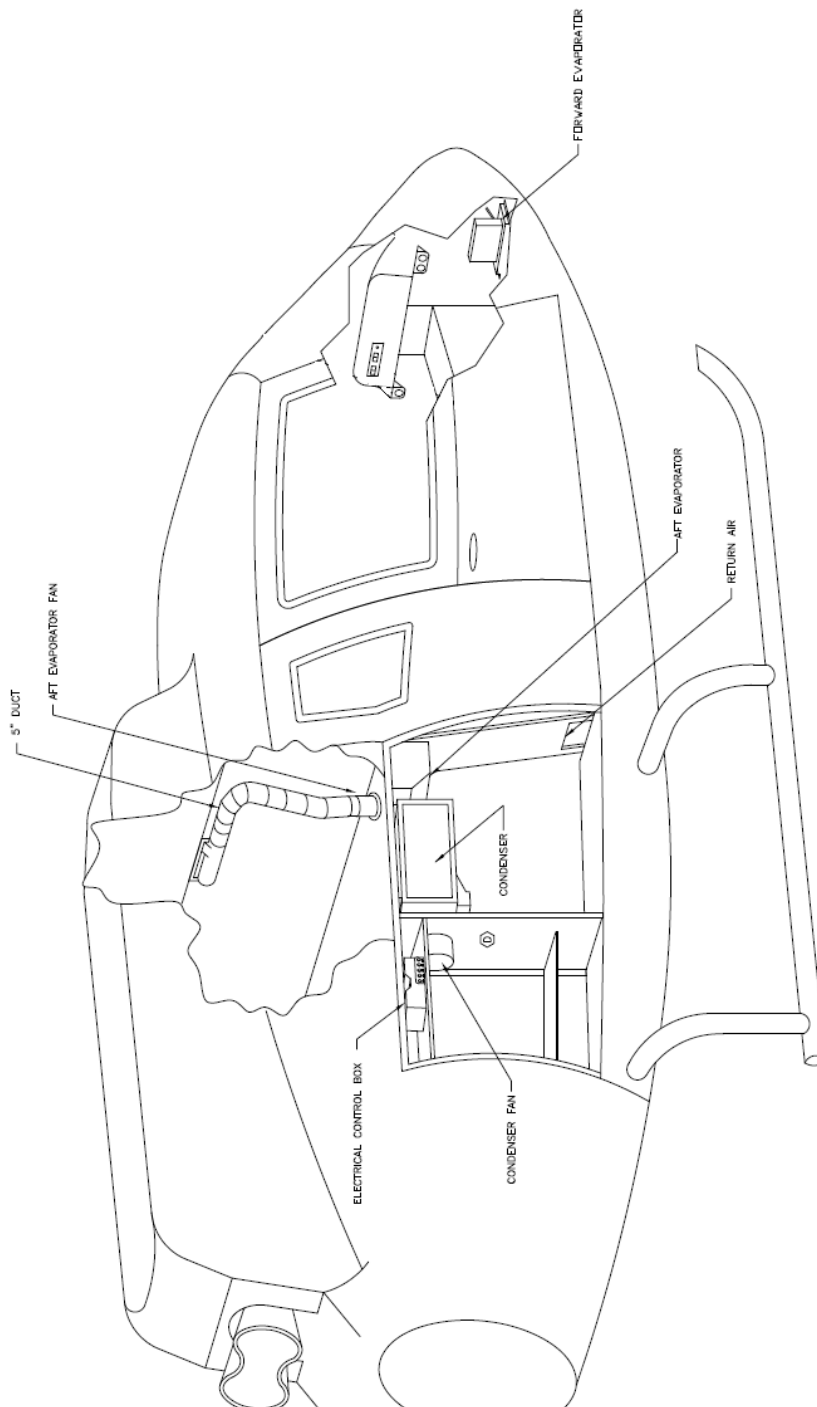

Figure 6-01: Side Mounted Condenser Configuration
##### a) Access Item Identification (Ref. figures 6-01 & 6-02)
- **Condenser-** The condenser is located in one of two positions depending on kit part number (Ref. Section 21.00.00 System Description). The aft mounted condenser (Kit numbers 350-00-031HP and 130-00-031HP) (Ref. figure 6-02) is mounted in the tail boom mounted 5 in. above the baggage floor and is accessed by removing the tail boom closeout panel. The side mounted condenser (Kit Number 350-00-011HP) is located in the right baggage compartment (Ref. figure 6-01) and is accessed by removing to baggage compartment close out panel.